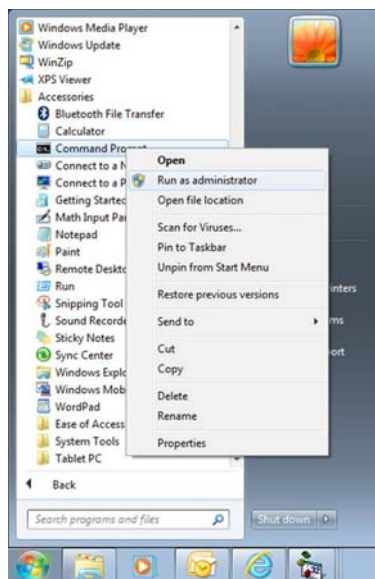

Figure 4 – Command Prompt
- Run the Command Prompt as Administrator, see figure 4